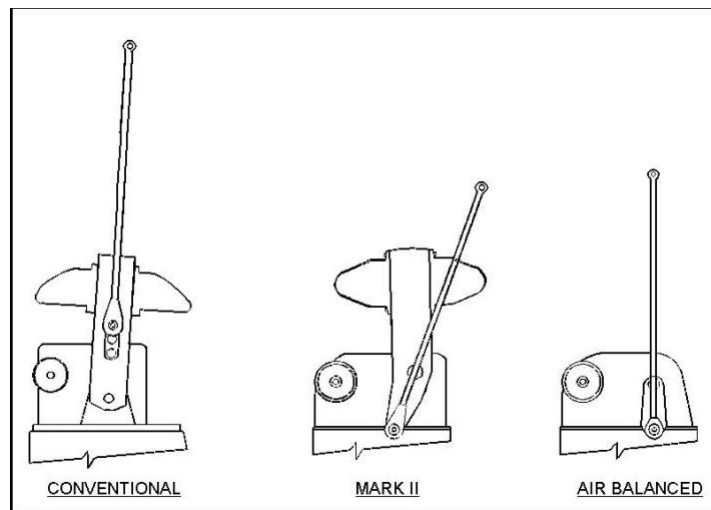

Figure 47 Crank/Pitman Alignment at Bottom Dead-Centre
- a. Align the crank and pitman. The centerlines of the pitman and the crank should be in perfect alignment. See Figure 47.